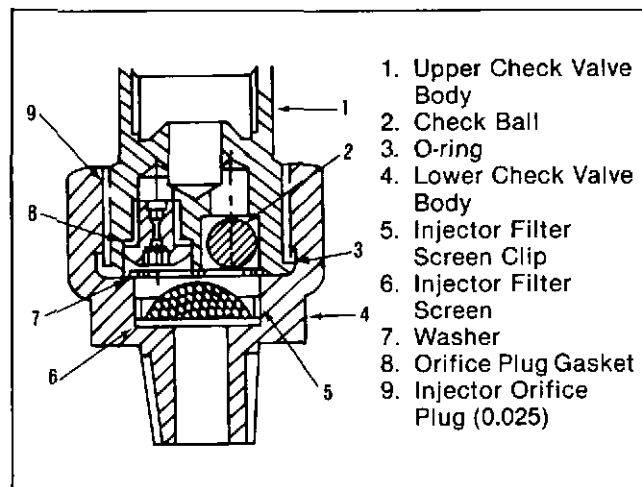

Fig. 10-11, (F5397). Hydraulic ASA parts.
3. Read the flow through the hydraulic ASA valve on the cc/min. flow meter. If the flow is under 400 cc/min., the ASA valve is dirty and must be disassembled and cleaned. If the flow is over 500 cc/min., the orifice, Part No. 177293, in the ASA valve must be changed, Fig. 10-11. Check the flow of the ASA valve again after it is assembled.